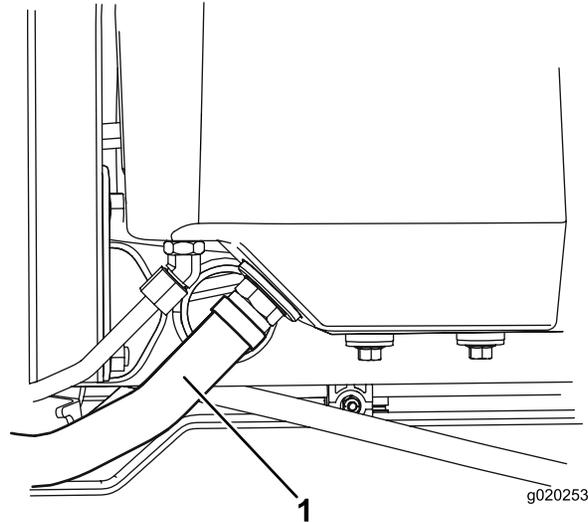

Figure 94
2. Disconnect the large hydraulic hose (Figure 94) from the reservoir, and let the hydraulic fluid flow into a drain pan.